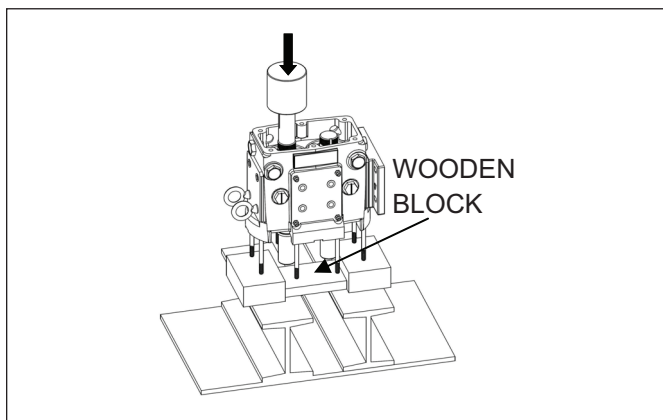

Figure 46. Pressing Shafts from Gear Case
4. Set the gear case in a press with the fluid end side facing down (Figure 46). Use a wooden block to protect the shafts from hitting the ground when pushed out. Once the protective block is in place push the shafts out of the gear case. Reference Table 5 for the required force (in tons) needed to press the shafts out of the gear case.